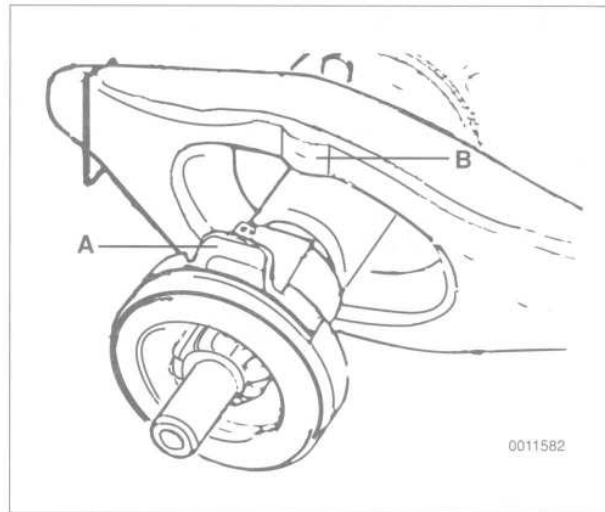

Fig. 8. Clutch release bearing correctly installed. Bearing tabs (**A**) align with contact points (**B**) on release lever.
13. Install release bearing, making sure bearing tabs are flush against the release lever. See Fig. 8. See note for special installation instructions.